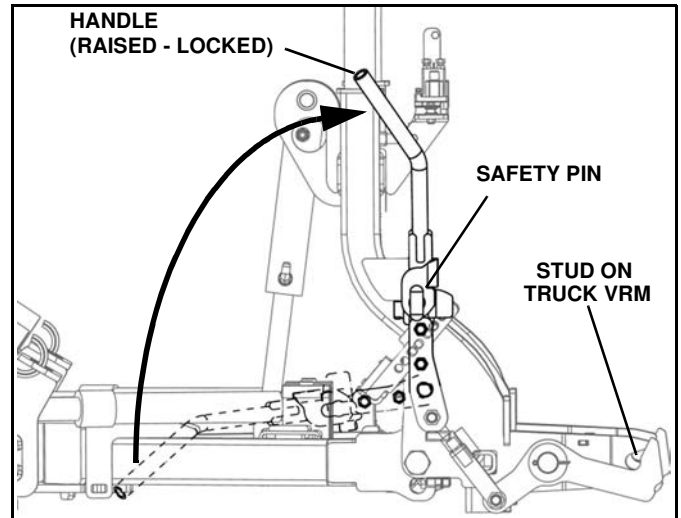

Figure 1-28
3. Pull up engagement handle to engage plow onto stud on VRM, ensuring that the safety pin is fully engaged. (See Figure 1-28).